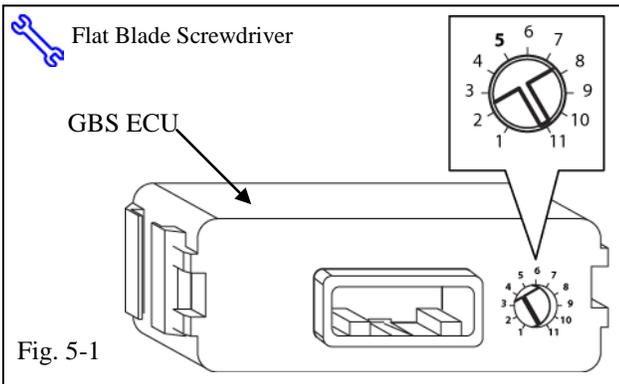

Fig. 5-1
- (a) Verify that the GBS ECU's sensitivity is set to 5. (Fig. 5-1)